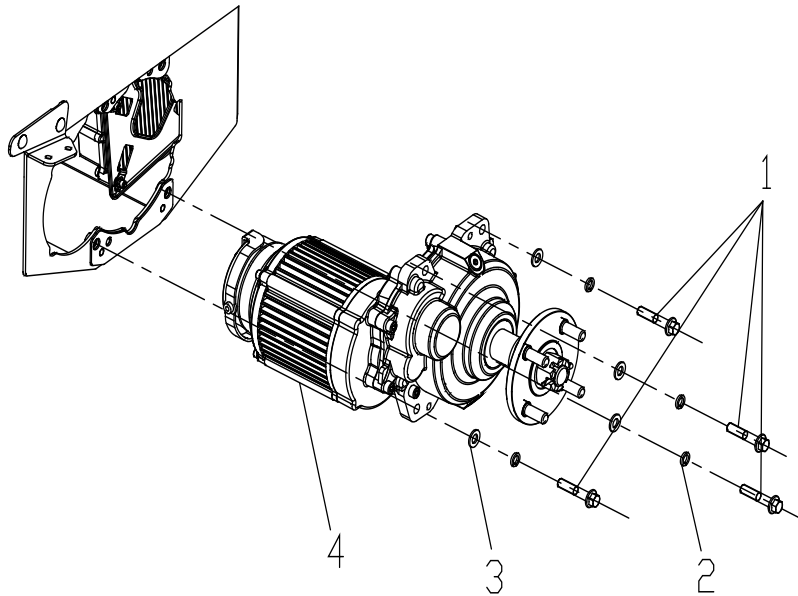
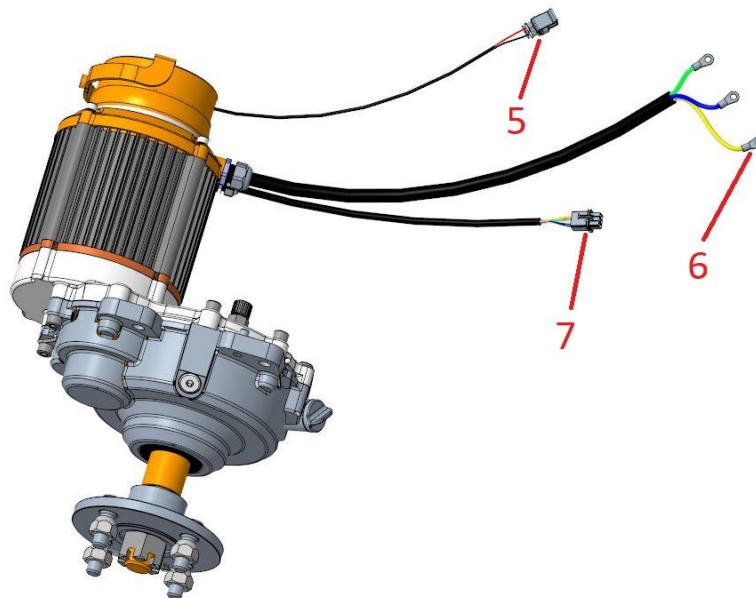

Fig.4
Fig.5
2. Disconnect the hall sensor connector (7) of the drive motor and the electromagnetic brake connector (5) (as shown in Fig.5 below).
4. Use a 13 mm socket to remove the four bolts (1) that mount the drive motor to the side wall of the chassis.
5. Pull out the drive motor (4) from the side wall of the frame (as shown in Fig.4 below).
1. Install the drive motor (4) into the rack via the mounting hole on the wall, as shown in Fig.4.
3. Tighten the four bolts (1), the spring washers (2), the flat washers (3) of the drive motor (4) with a 13mm socket by rotating clockwise, with a tightening torque of 45~50 N•m (33~37 Ft-lbs).
4. Connect the Hall sensor connector (7), the electromagnetic brake connector (5) and the three-phase wire connector (6) to the drive motor (4) (as shown in Fig.5). (See 7.1 for detailed steps for connecting to the controller.)